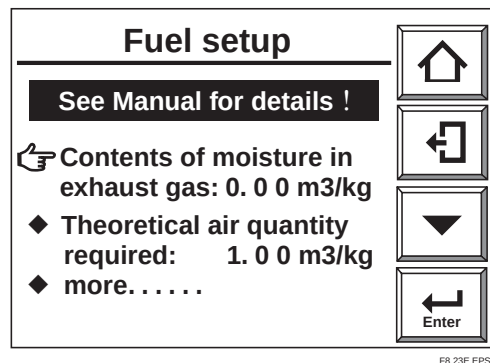
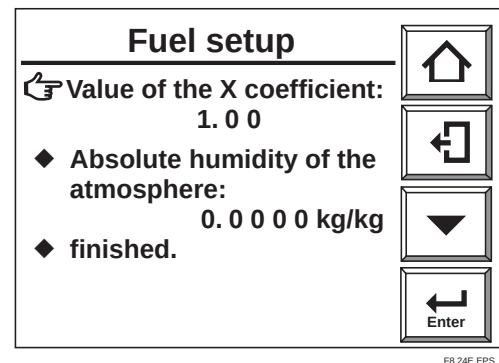

Fig. 8.21 "Fuel Setup" display 1
Fig. 8.22 "Fuel Setup" display 2
- 3) Select [Others] then [Fuel Setup] and the display of Fig. 8.21 appears.
- 5) Select [more] and touch Enter key, and a display like Fig. 8.22 is displayed. Here enter [Value of the X coefficient] and [Absolute humidity of the atmosphere] then select [finished] to revert to the display of Fig. 8.21.